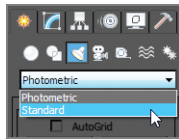

FIGURE 14.10
2. Click the drop-down menu and choose Standard, as shown in Figure 14.10.